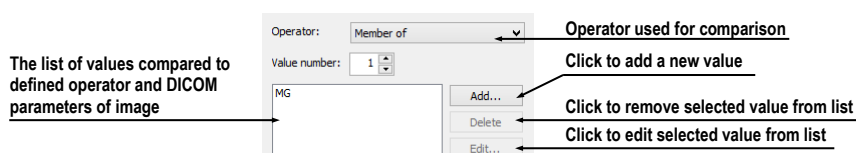

Figure 181 – DICOM criteria set dialog
4. Define the allowed values for the specified DICOM tag (see Figure 181):